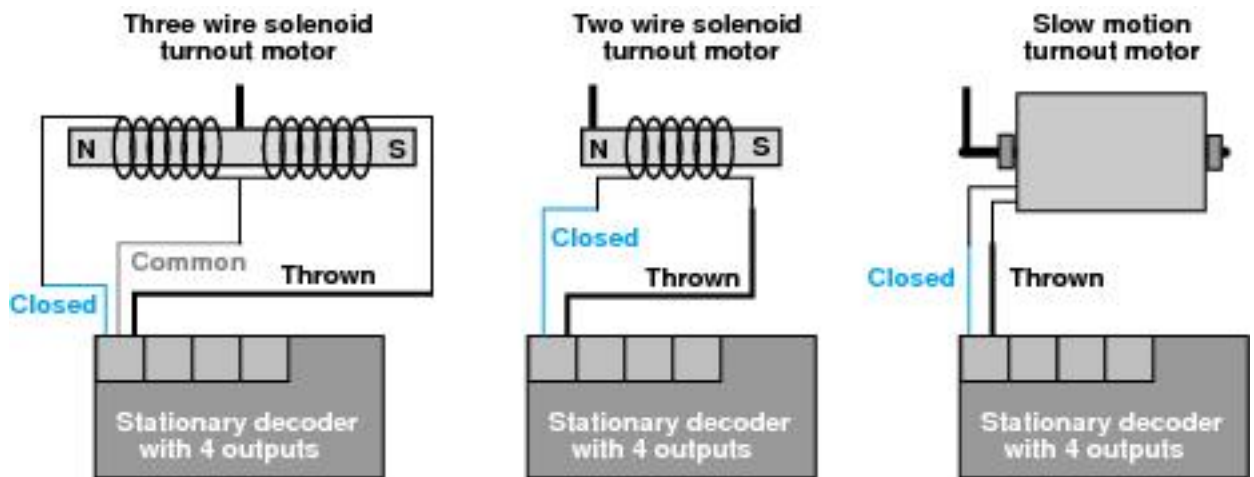

Figure 4-35: Simple stationary decoder control of turnout motors.
**Figure 4-35** shows a stationary decoder attached to each type of turnout motor using the simplest installation. The power leads are the same as for a conventional installation, but note the absence of control wires.